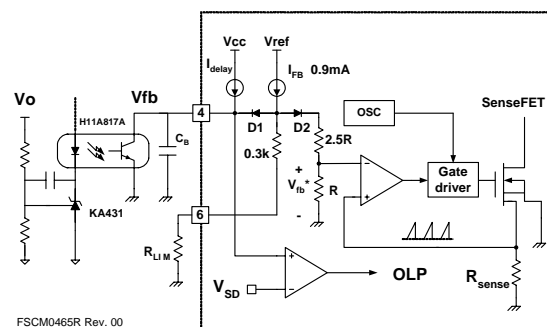

Figure 18. Pulse Width Modulation (PWM) Circuit
2. Feedback Control: The FSCM0465R employs current mode control, as shown in Figure 18. An optocoupler (such as the H11A817A) and a shunt regulator (such as the KA431) are typically used to implement the feedback network. Comparing the feedback voltage with the voltage across the R_{sense} resistor makes it possible to control the switching duty cycle. When the reference pin voltage of the KA431 exceeds the internal reference voltage of 2.5V, the H11A817A LED current increases, pulling down the feedback voltage and reducing the duty cycle. This event typically happens when the input voltage is increased or the output load is decreased.
2.1 Pulse-by-pulse Current Limit: Because current mode control is employed, the peak current through the SenseFET is determined by the inverting input of the PWM comparator (V_{fb}^*) as shown in Figure 18. When the current through the opto-transistor is zero and the current limit pin (#5) is left floating, the feedback current source (I_{FB}) of 0.9mA flows only through the internal resistor ($R+2.5R=2.8k$). In this case, the cathode voltage of diode D2 and the peak drain current have maximum values of 2.5V and 2.5A, respectively. The pulse-by-pulse current limit can be adjusted using a resistor to GND on the current limit pin (#5). The current limit level using an external resistor (R_{LIM}) is given by: